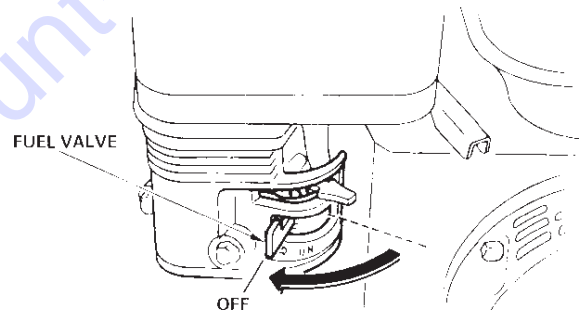

Figure 16. Fuel Valve Lever (OFF Position)
3. Close the **fuel shut-off valve** (Figure 16) by moving the fuel valve lever to the **OFF** position.